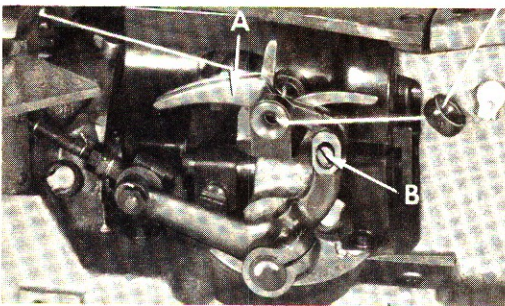

Fig. 7
On Styles 80800 E and H, adjust the height of the looper thread take-up (A, Fig. 7) by loosening screw (B) so the point of the descending needle is approximately $1/8$ inch below the lower edge of the looper at the time the cast-off forces the looper thread over the corner of the take-up. This adjustment can be made by drawing the looper thread into the machine and noting the location of the needle point at the time the cast-off forces the looper thread over the corner. Retighten screw.